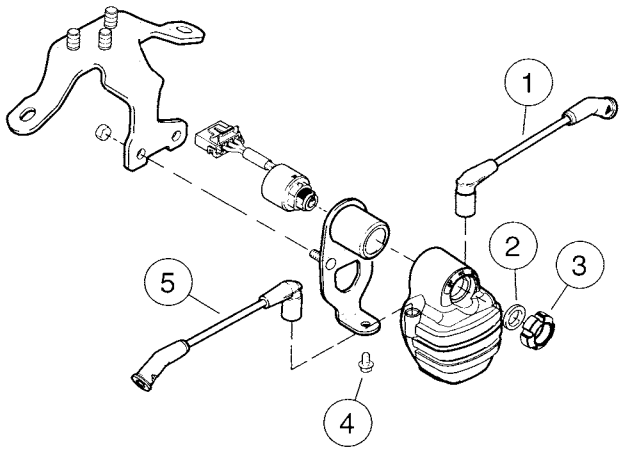

Figure 7-60. Coil (FXCWC Only)
3. See Figure 7-60. Remove spark plug cables from coil.
4. Remove screw (4).
5. Remove nut (3) and washer (2).
1. See Figure 7-60. Attach connector [83] to backside of coil.
2. Position coil on bracket and install screw (4).
3. Make sure ignition/light switch is fully seated. Install washer (2) and nut (3). Tighten nut to 115-135 **in-lbs** (13.0-15.3 Nm).